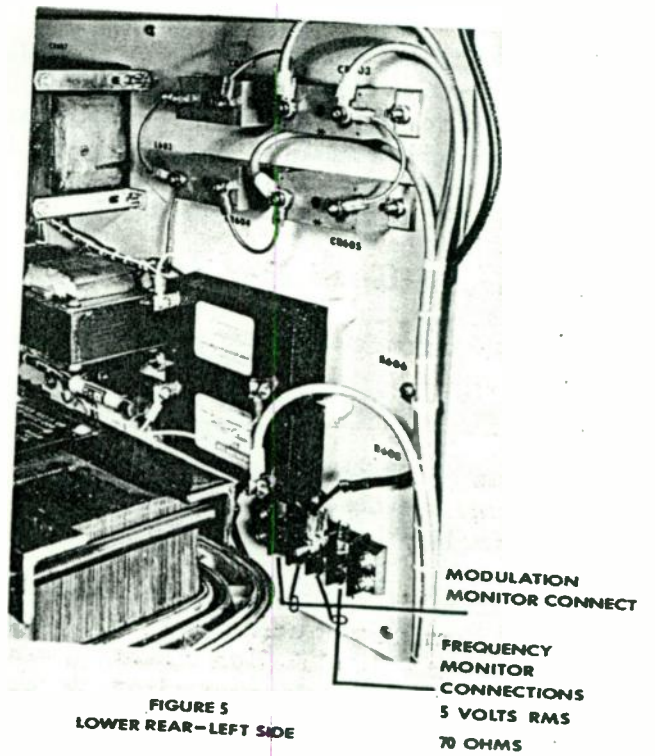

FIGURE 5
6. Connect the center conductor of the modulation monitor coaxial line to terminal #4 on the terminal board shown in Fig. 5, Page 7. Connect the shield of this coaxial line to terminal #3. See Page 12 for adjustments.